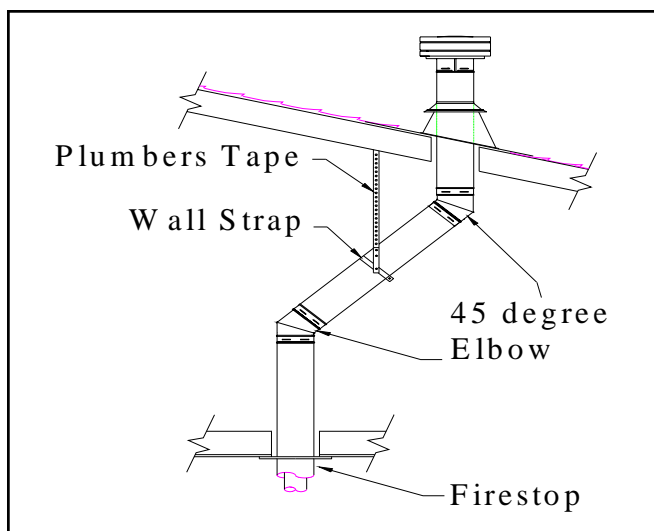

Fig. 16– Venting Offsets
2. With the gas appliance in its desired location, drop a plumb bob from the ceiling to the position of the appliance flue exit and mark the location where the vent will penetrate the ceiling. Drill a small hole at this point. Next, drop a plumb bob from the roof to the hole previously drilled in the ceiling and mark the spot where the vent will penetrate the roof. Determine if ceiling joists, roof rafters, or other framing will obstruct the venting system. You may choose to relocate the fireplace or offset the venting to avoid cutting framing members (see figure 16).